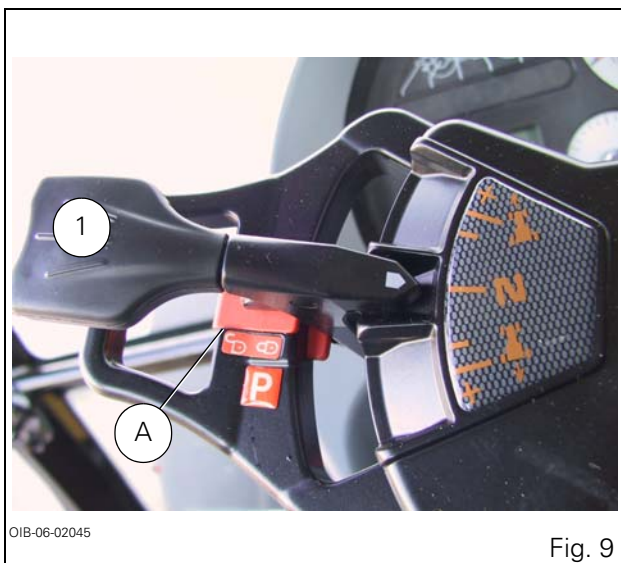

Fig. 9
**DANGER:** Before leaving the seat, you **MUST** move the reverse shuttle control (1. Fig. 9) to **NEUTRAL** and operate the brake control on the steering wheel ref. A (ParkLock).